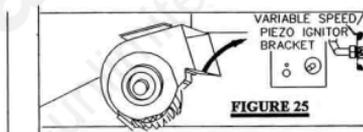

FIGURE 25
4. Tilt the blower onto its side and slide it past the controls. Position the blower onto the studs. **FIGURE 25**